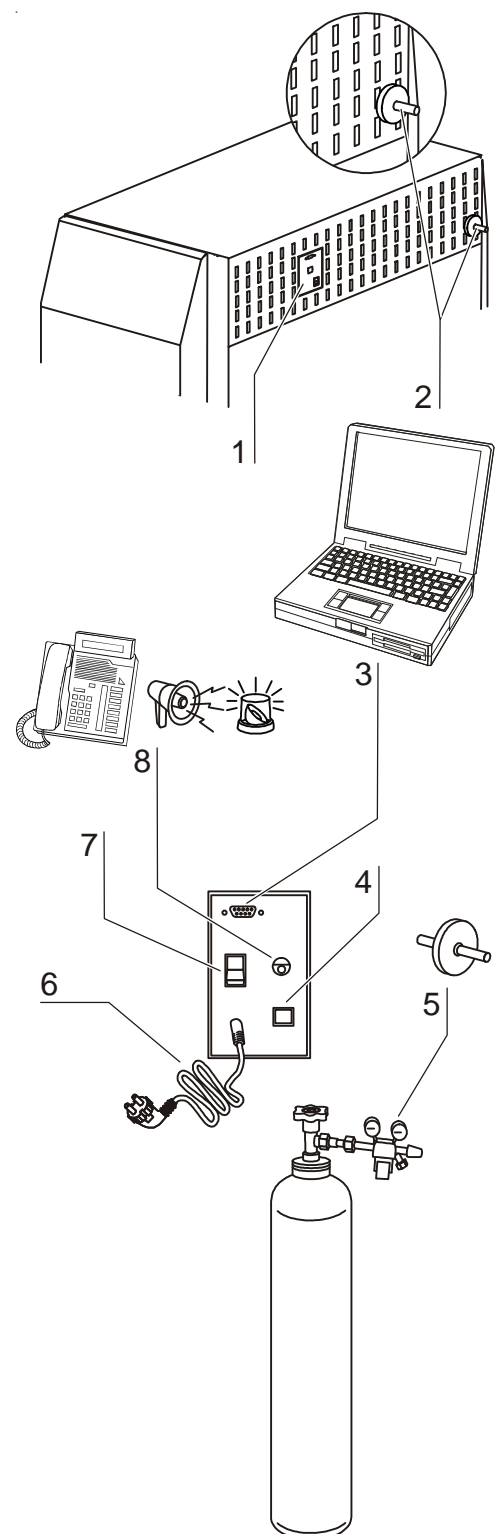

Fig. 11,
**Fig. 11:** The supply connections are installed at the rear of the device: Electrical connections at the interface [1], gas connection through the filter with connecting sleeve [2].
- **Fig. 11:** The common gas connection [2] for the refrigeration system of the dry refrigerator and the optional O2 control at the gas supply system must be set to an operating pressure between 0.8 bar min. and 1.0 bar max.
**Fig. 11:** The device can be connected to an on-site, external alarm system (e.g. telephone system, building monitoring system, visual or audible alarm system). For this purpose, a potential-free alarm contact [8] is preinstalled in the device.